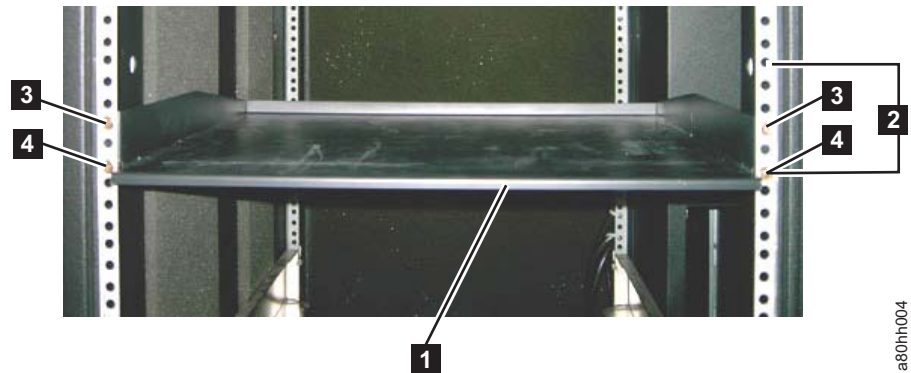

Figure 2-1. Front view of shelf attached to rack rails
1. Decide at what level you want to install the shelf. The drive requires 3 units (EIAs) of rack space (see **2** in Figure 2-1 on page 2-3).